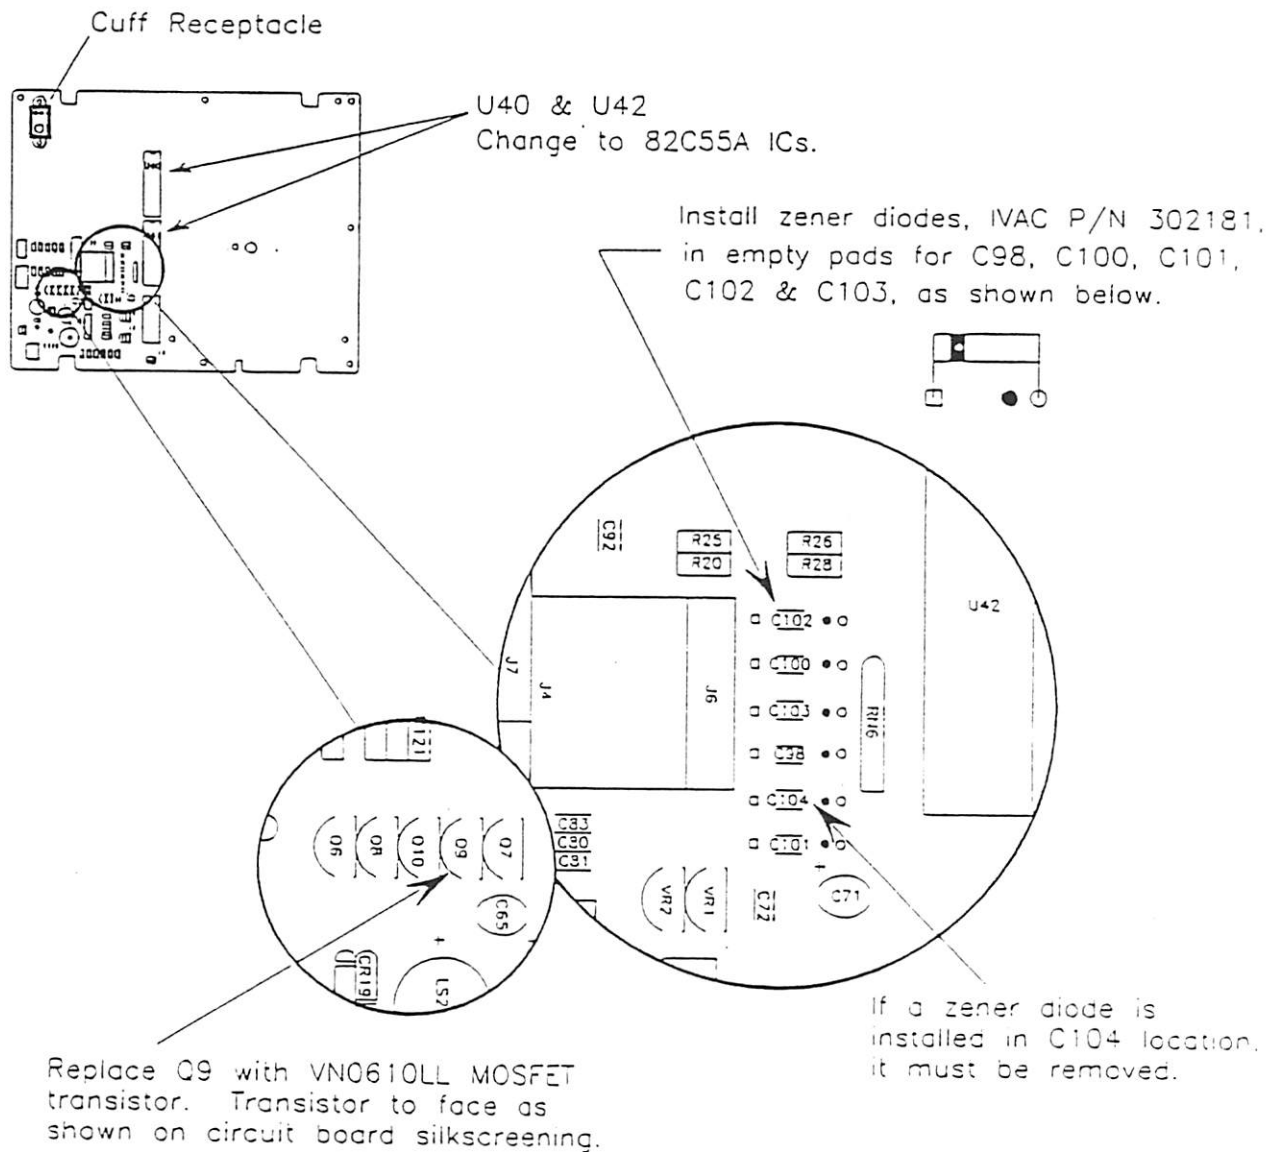

Figure 5
- B. The zener diode located at C104 on the Logic/Analog board was removed to reduce battery standby current. See Figure 5.